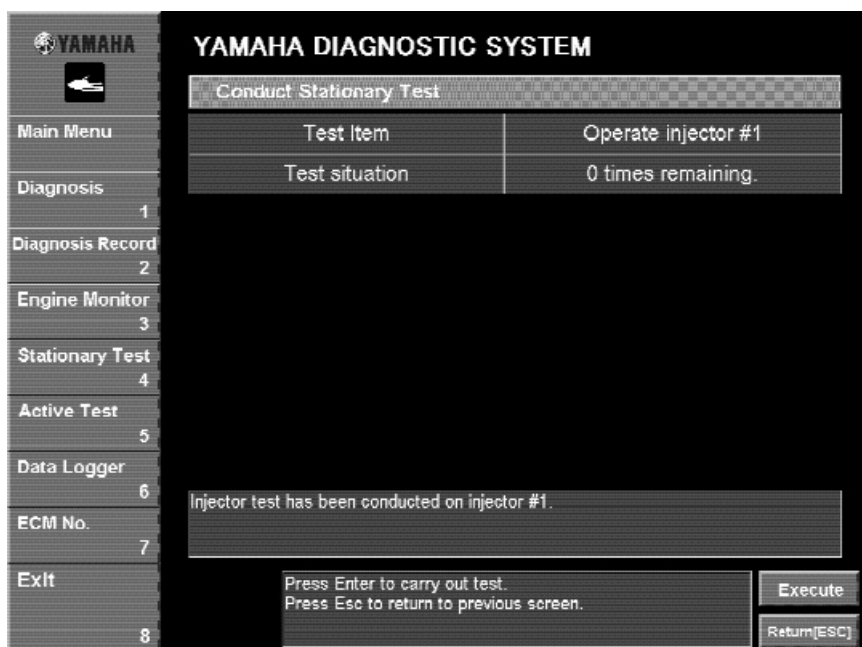

Fig. 51
5. To perform the test again on the same cylinder, click the **Execute** button or press the Enter key on your keyboard. To perform the test on a different cylinder, click the **Return [ESC]** button or press the Esc key on your keyboard to return to the window where a different test can be selected (Fig. 51).